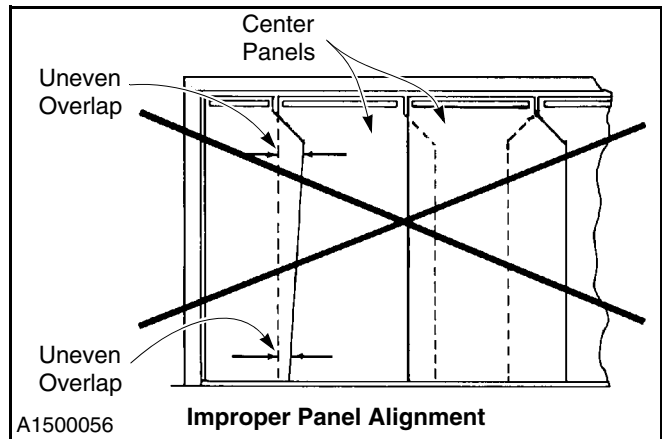
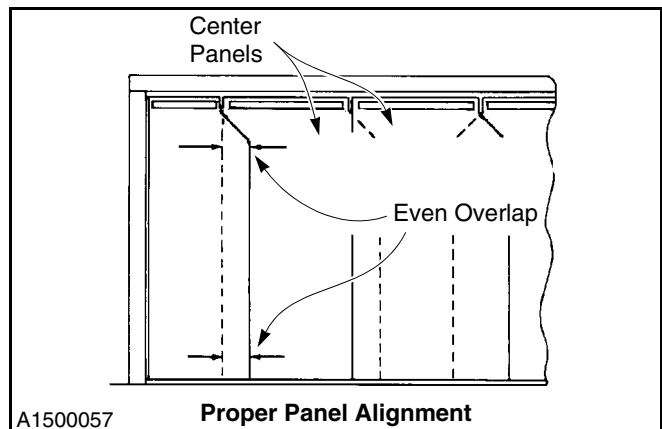

Figure 50
Figure 51
- Stand far enough away from the door to visually inspect the overlap and alignment of each panel. The panels should hang straight, with the overlap even along the entire length of each adjoining panel. Adjust the panels as necessary. (See Figure 50 and Figure 51.)